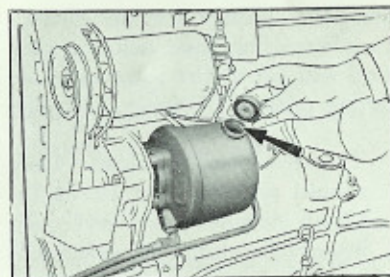

Figure 2d
- (5) *Power assisted steering.* With the engine stopped and the wheels straight ahead position, the level should reach the bottom of the filler neck. Figure 2d.